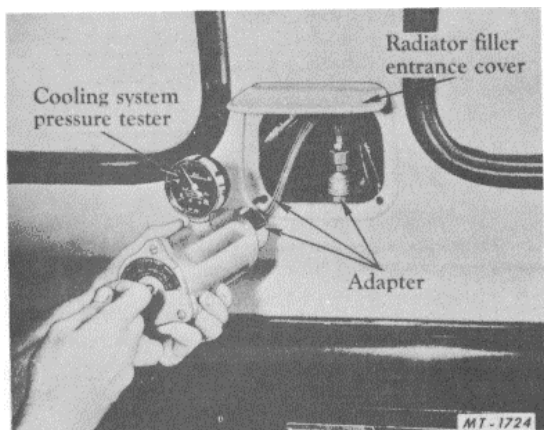

Fig. 6 Using Cooling System Pressure Tester (SE-1870 Adapter)
1. Cooling System Pressure Tester (Fig. 6)- This equipment may be used in detecting the hard to find leaks in the cooling system. Any leak from cracked cylinder heads, warped cylinder heads or blown gaskets whether internal or external can be located easily and in a short time with the pressure tester. Adapters are available with the tester which permit the testing of radiators on trucks having the cab forward or cab over engine design (Fig. 6). Pressure caps can also be tested with the pressure tester.